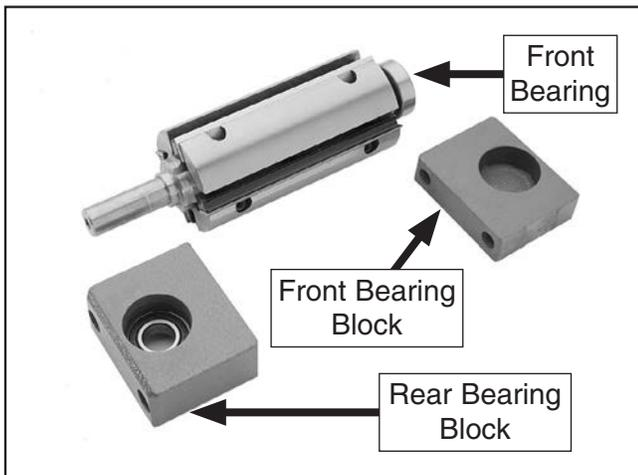

Figure 6. Disassembled cutterhead assembly.
11. Remove front bearing block and bearing from cutterhead—if it has not already dropped off. **Figure 6** shows disassembled components.